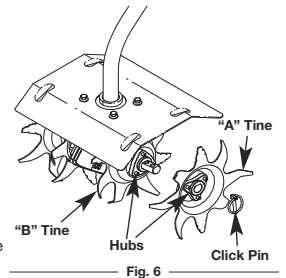

Fig. 6
1. Put the On/Off Stop Control in the STOP (O) position and disconnect the spark plug wire.
2. Remove the click pin from each end of the tine shaft. Slide the tines off of the shaft (Fig. 6).